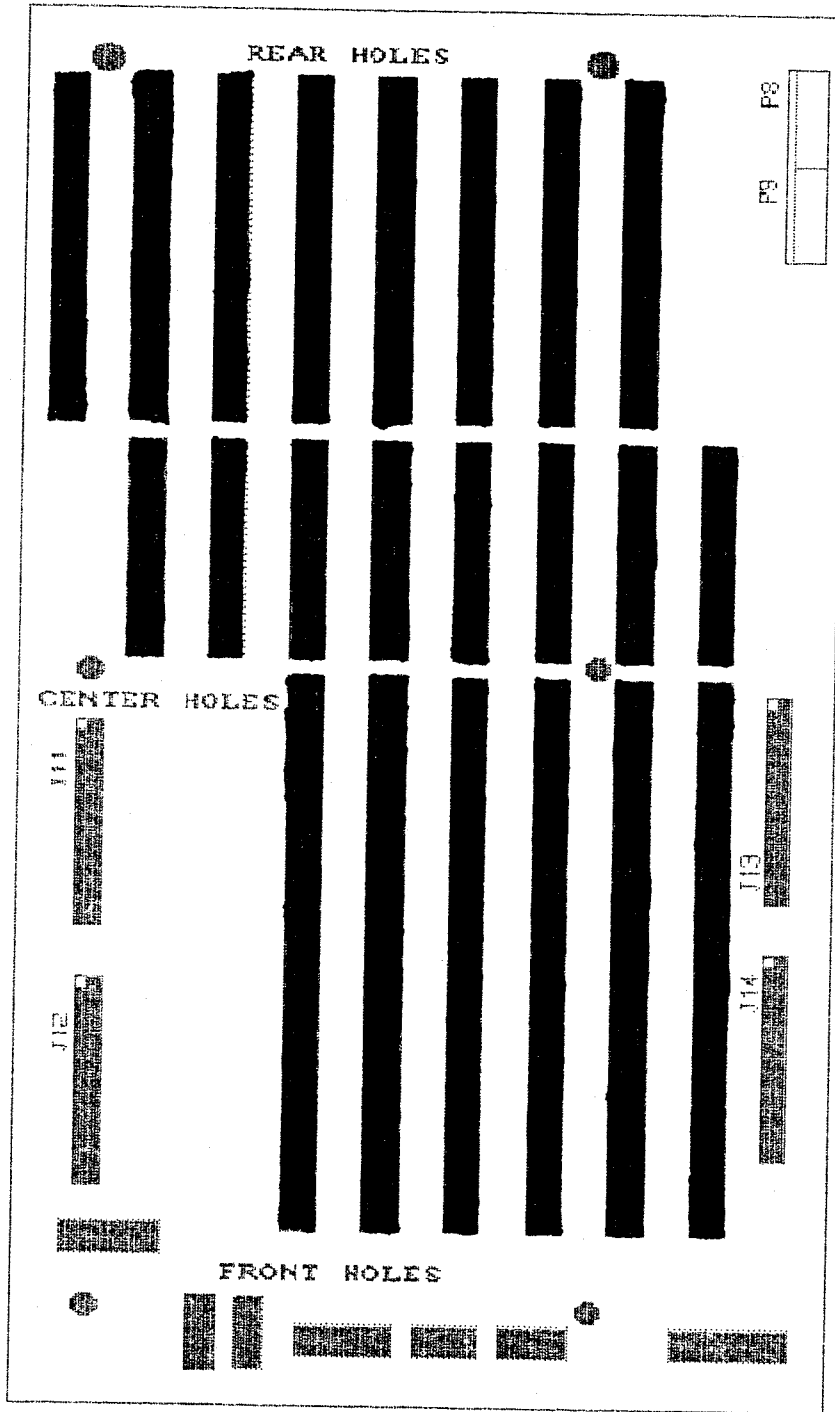

Figure 5, Alignment of Mounting Holes
**Step 2. Check the alignment of the mounting holes.** The mounting holes in the case must be aligned with the pre-drilled holes in Motherboard. The center (see Figure 5, Alignment of Mounting Holes) and rear holes **MUST BE ALIGNED CORRECTLY**. (Alignment of front holes may require modification of the case.) **IMPORTANT NOTICE -- DO NOT MODIFY THE MOTHERBOARD TO ALIGN FORWARD HOLES. ANY MODIFICATION OF THE MOTHERBOARD WILL VOID YOUR WARRANTY!**